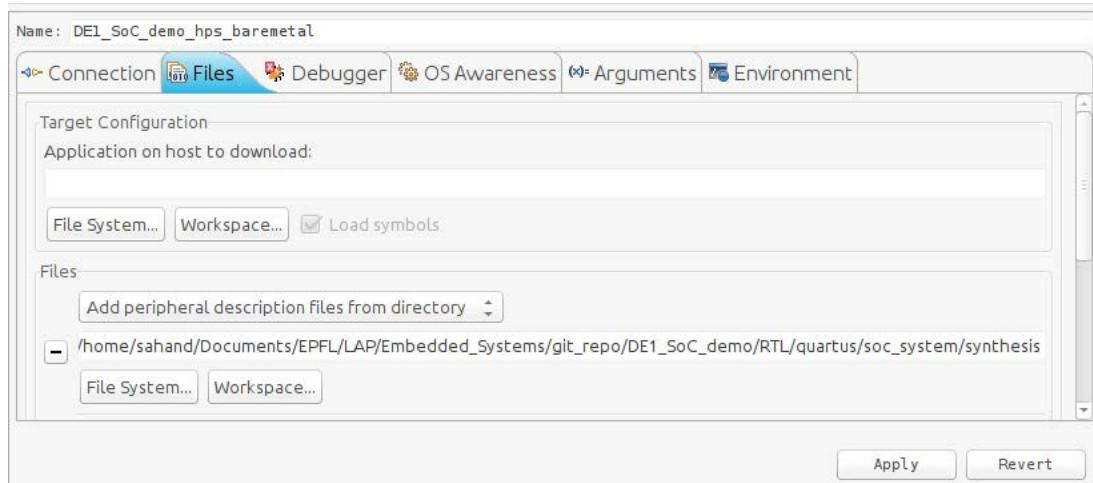

Figure 8-30. Debug Configuration "Files" Tab
- In 8.3.3.2, we configured our HPS to use some FPGA peripherals. We can instruct the debugger about this so it can show more detailed information when debugging. To do this, set the combobox to “Add peripheral description files from directory” and set it to the “DE1_SoC_demo/RTL/quartus/soc_system/synthesis” directory, as shown in Figure 8-30. This directory contains a file called “soc_system_hps_0_hps.svd” which has information on all of the HPS’ peripherals which are in the FPGA fabric.